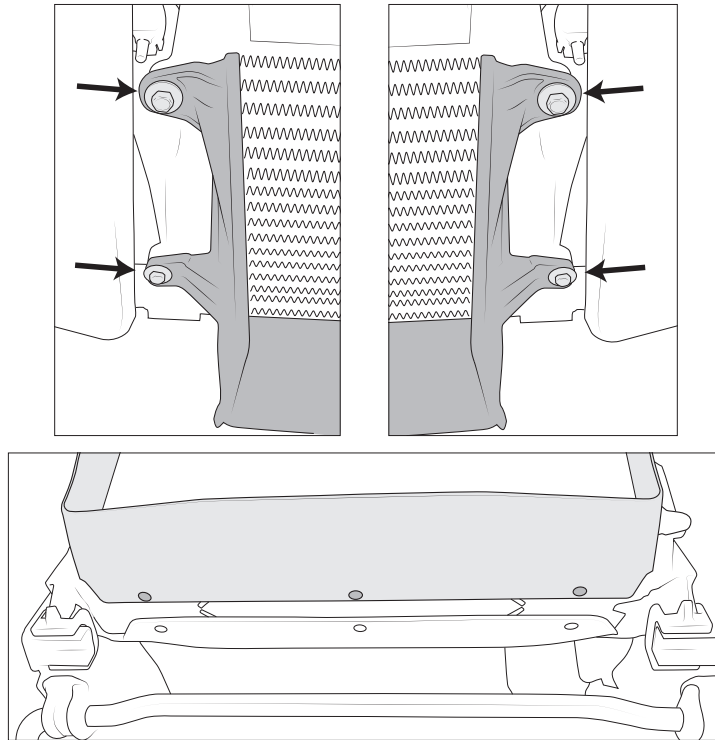

Figure 10
- 12. Remove the front intercooler shroud and save hardware (fig. 10)